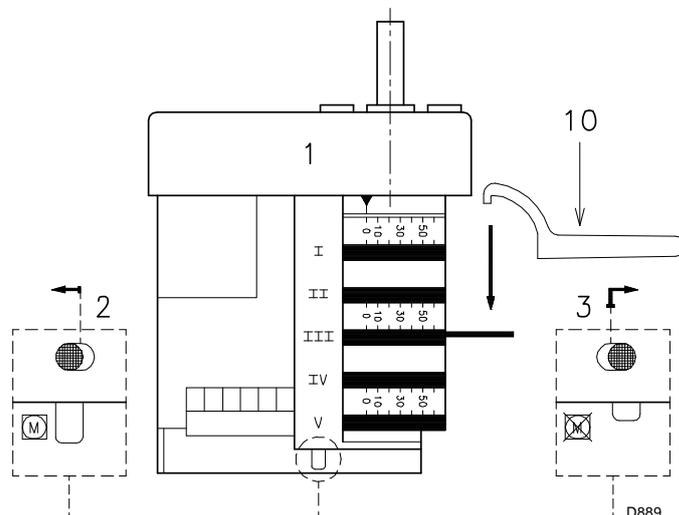

Fig. 30
- In order to adjust cam III, especially for fine movements, key 10)(Fig. 30), held by a magnet under the servomotor, can be used.
- When the setting has been carried out and the burner switched off, verify manually, after having released the servomotor pushing and moving the button 3)(Fig. 30) towards the right, that no slow-down occurs.